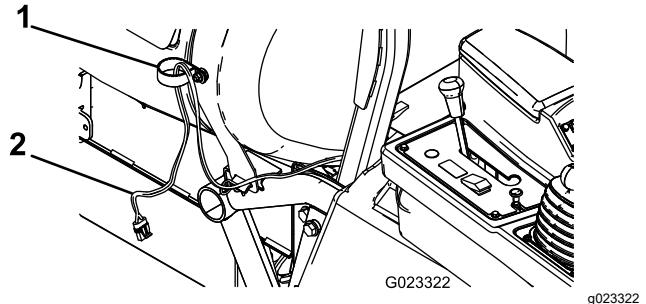

Figure 2
4. Secure a small R-clamp to the carriage bolt using a flange nut (3/8 inch) as shown in Figure 2.
5. Route the hose reel end of the wire harness through the R-clamp as shown in Figure 2.